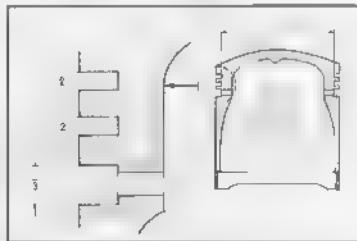

Fig. 3.54 Piston ring groove dimensions
- (1) Piston
- (2) Piston ring
- (3) Thickness gauge
6. Piston ring groove. (Fig. 3.54)